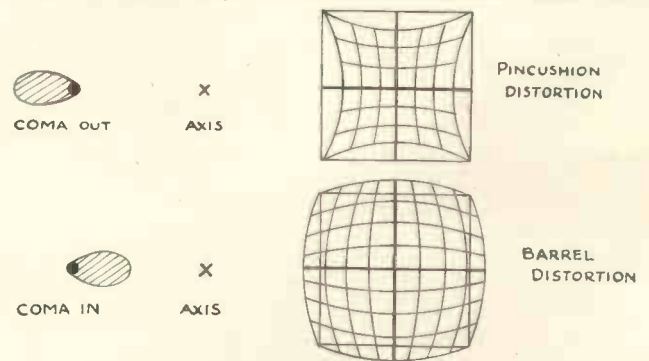

Fig. 4. Diagram showing the effects of two types of coma and distortion.
(5) Even if all the rays from a point of light emerge after refraction to come to a focus at a point, there is no guarantee that all these image points corresponding to object points in a plane will themselves be in a plane. They may be on a curved surface, such as part of a sphere. In this case we have "curvature of field."
(6) Finally, even if a sharp focus, not spoiled by any of these five aberrations, is obtained on a flat surface, there remains still the possibility of a distorted image. Straight lines may be focused sharply on a screen as curved lines. A grille of straight lines may be reproduced pincushion- or barrel-shaped, as shown in Fig. 4.